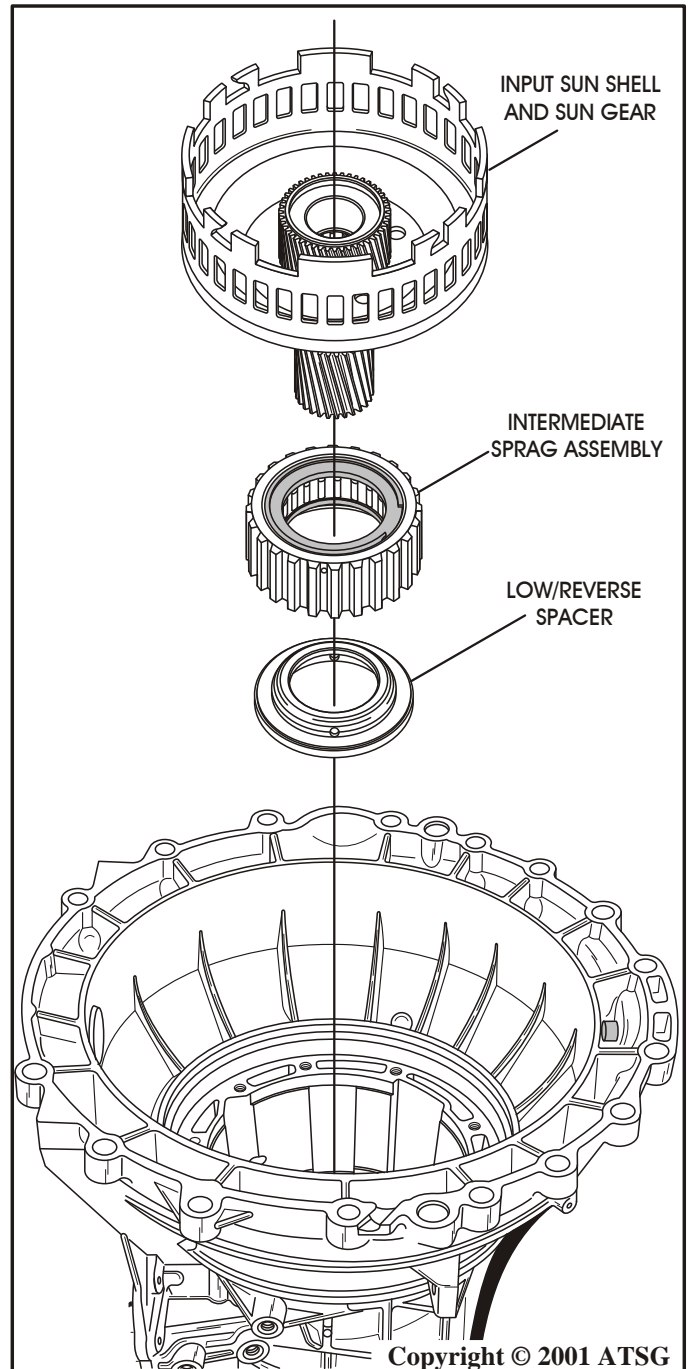

Figure 48
55. Remove the input sun gear and shell assembly, as shown in Figure 48.
56. Remove the low/reverse bearing spacer from inside the intermediate clutch pack, as shown in Figure 48.